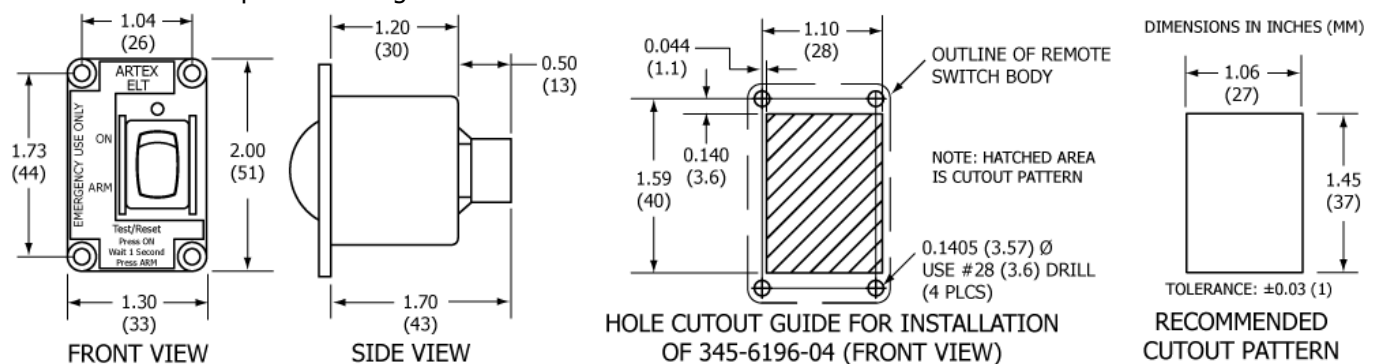

Figure 17 Remote Switch Outline and Dimensions
- 3) The switch assembly requires a space approximately 2.0 x 1.3 in. (51 x 33 mm) on the panel surface and behind the panel. See Figure 17.
- 1) Mark the cutout on the cockpit panel. See Figure 17.